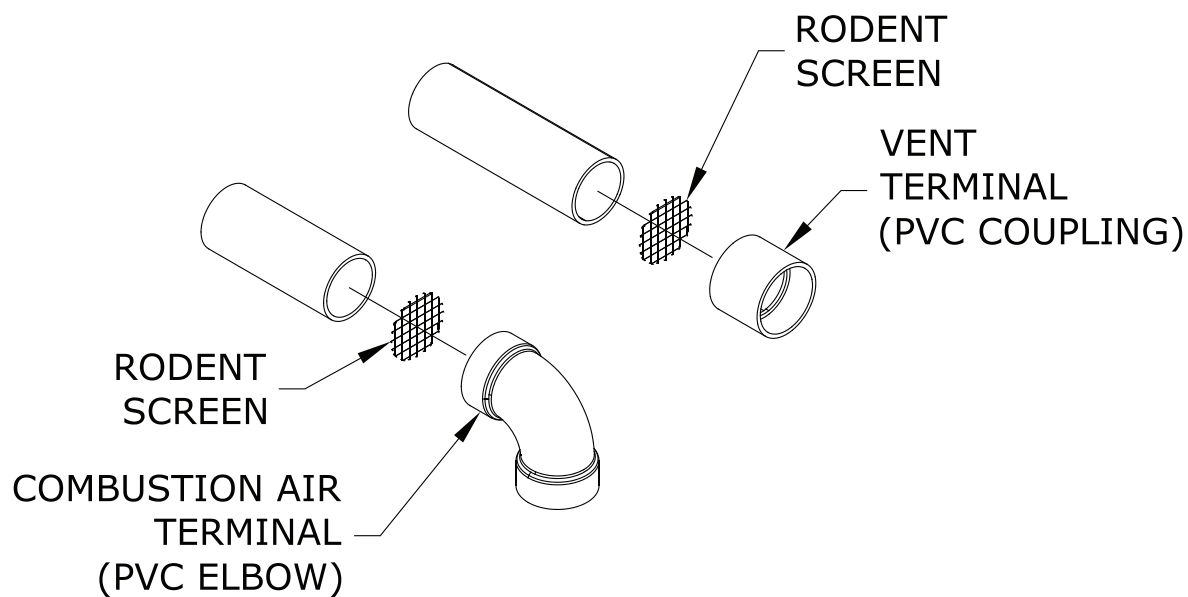

Figure 7.28: Installation of Standard Horizontal Terminals
- a. See Figure 7.28 for proper orientation of twin pipe horizontal terminals. Outer edge of both terminals must be within 10" from wall surface. (Figure 7.6)